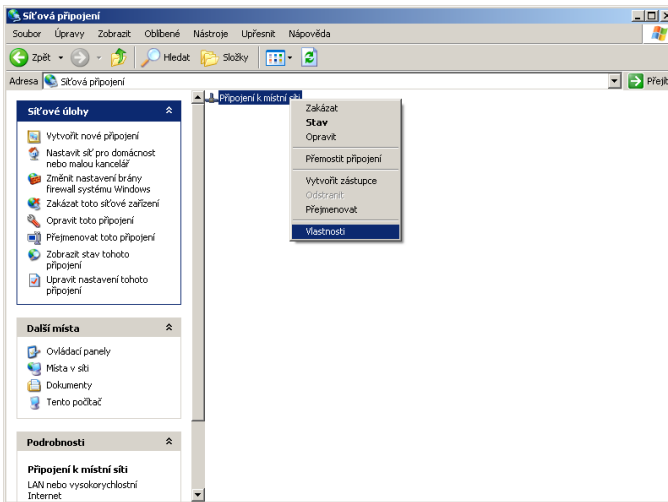

Figure 3.5
A window Network connections will appear (Figure 3.5). Right click on the Local network connection icon (1).